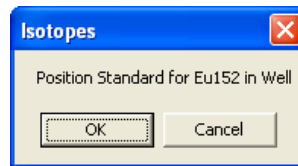

Figure 6-11
- Next, the screen appears as shown in Figure 6-11, prompting you to measure the isotope selected for efficiency measurement.